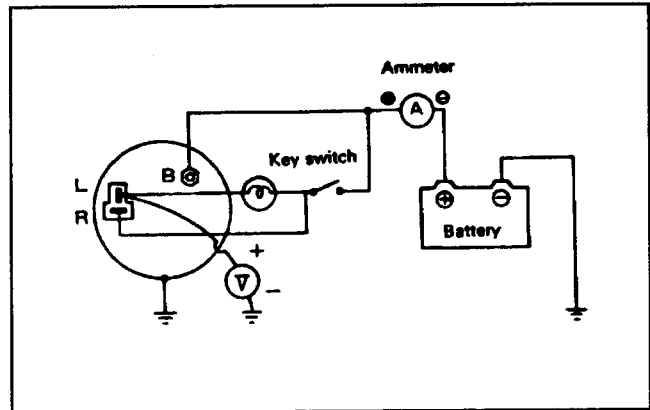

Figure 34
1. Install an ammeter between the positive (+) terminal of the battery and terminal "B" of the alternator (Fig. 34).